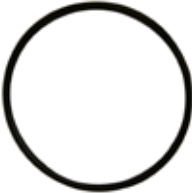

Figure 1.1
- (B) Have a qualified electrician install a properly grounded receptacle outlet, acceptable for outdoor use and protected from snow and rain.
- (C) Any wiring of pumps should be performed by a qualified electrician to ensure code compliance and user safety.
- (D) This is a pond pump. This pump has been evaluated for use with water only. Do not use this pump for other than intended use (*i.e.: do not use in swimming pools, aquariums, etc. Not to be used as a sump pump.*)
- (E) Do not use this pump in swimming pools or other situations where people are immersed
- (F) If an extension cord is necessary, ensure connection is watertight and dust proof. A cord with proper rating should be used. A cord rated for less amps or watts than the appliance rating may overheat. Care should be taken to arrange the cord so that it will not be tripped over or pulled. The connection should be carried out by a qualified electrical installer.
- (G) Unplug pump at receptacle outlet when not in use or before removal from pond.
- (H) To reduce risk of electrical shock, all wiring and junction connections should be made per local codes. Requirements may vary depending on usage and location.
- (I) Inspect the power cable before using. The power cable should be protected at all times to avoid punctures, cuts, bruises and abrasions. Never cut the cord.
- (J) Never handle power cords with wet hands.
- (K) To avoid injury, do not touch moving or hot parts.
- (L) Do not use power cable to lift pump. (*Figure 1.1*)